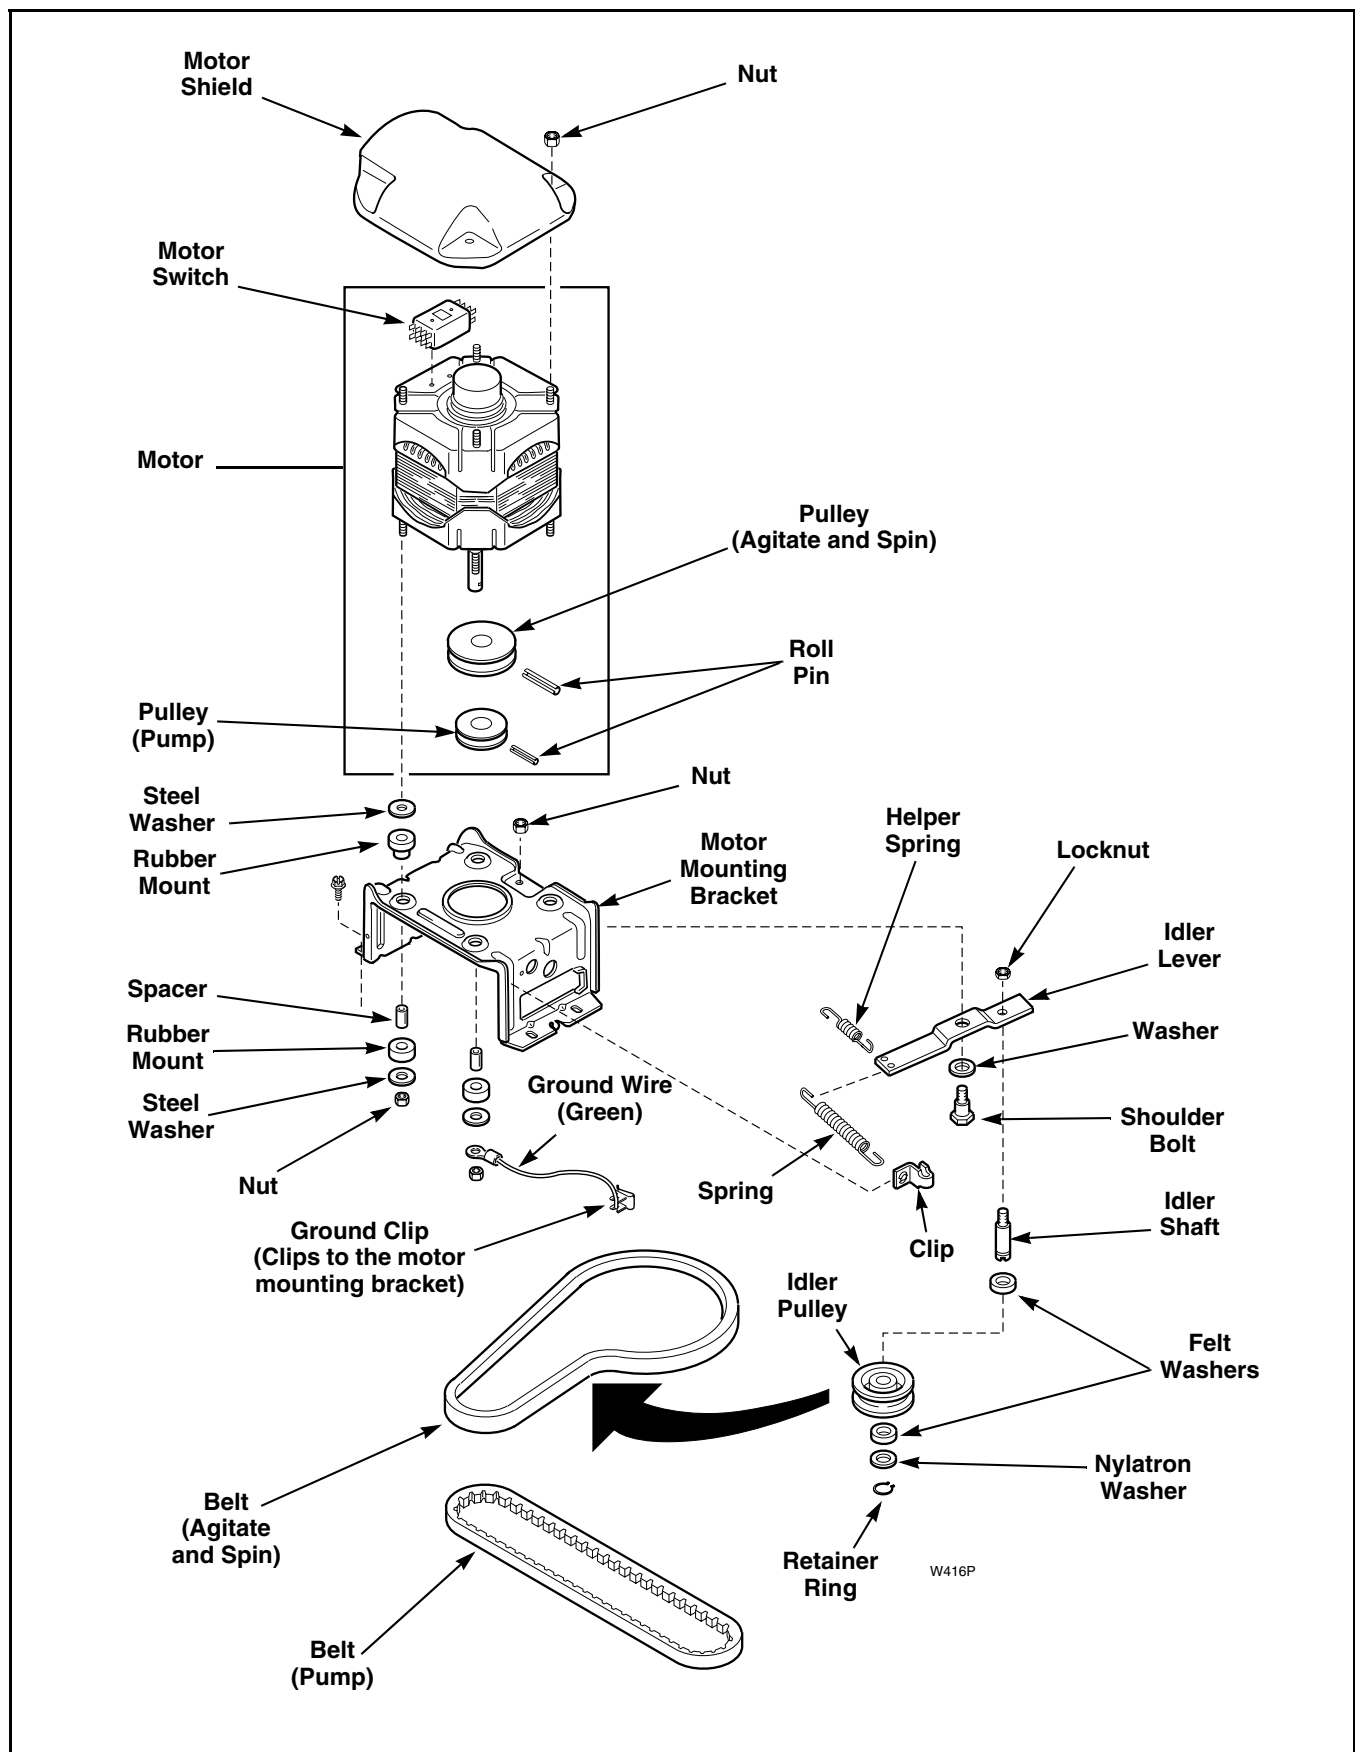

Figure 20
- f. Remove nuts, steel washers, spacers and rubber mounts holding motor to mounting bracket. Refer to *Figure 20*. Lift motor off mounting bracket and remove balance of rubber mounts and steel washers from motor mounting studs.
NOTE: Refer to *Figure 20* for motor and mounting bracket assembly sequence.
NOTE: Refer to *Figure 20* for idler lever and pulley assembly sequence.
- Remove nut holding motor shield to motor. Refer to *Figure 20*.
- Remove two screws holding switch to motor. Refer to *Figure 20*.